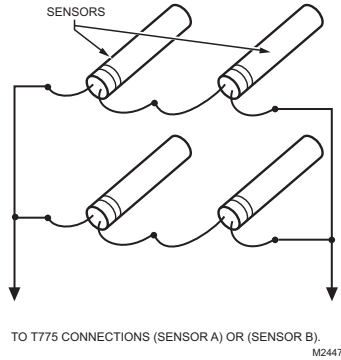

Fig. 3. Parallel-Series Wiring of Sensors.
**NOTE:** Multiple sensors may be parallel-series wired to sense average temperatures in large spaces. Refer to Fig. 3 on page 4.
Multiple sensors can be parallel-series wired to sense average temperatures in large spaces. To maintain control accuracy, the number of sensors to be parallel-series wired must be of the n2 power (for example, 4, 9, 16, etc.). Refer to Fig. 3.